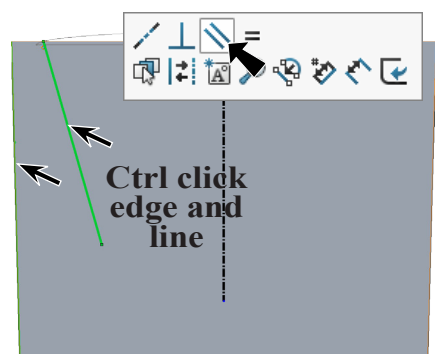
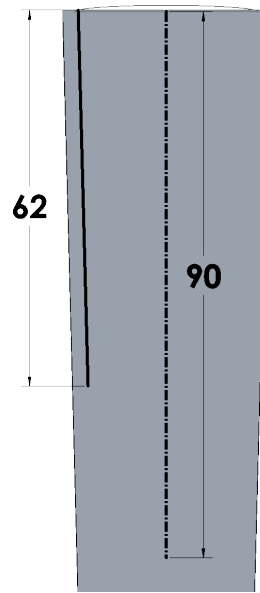
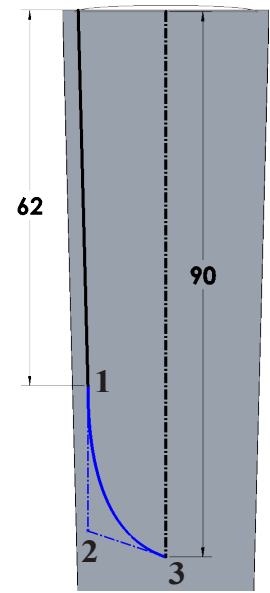

Fig. 35
Fig. 36
Fig. 37
Step 11. **Click line and left edge of body** to select both. Release Ctrl key and click **Make Parallel**  on the context toolbar, Fig. 35.
Step 12. Click **Smart Dimension**  (S) on the Sketch toolbar.
Step 13. Dimension **line 62** and **centerline 90**, **Fig. 36**.
Step 15. Click the centerline and click **Zoom to Selection**  (Q) on the View toolbar to zoom to sketch.
Step 17. Sketch a **3 control vertex point Spline** between bottom endpoint of line and bottom endpoint of centerline, **Fig. 37**. Press Escape to end spline.